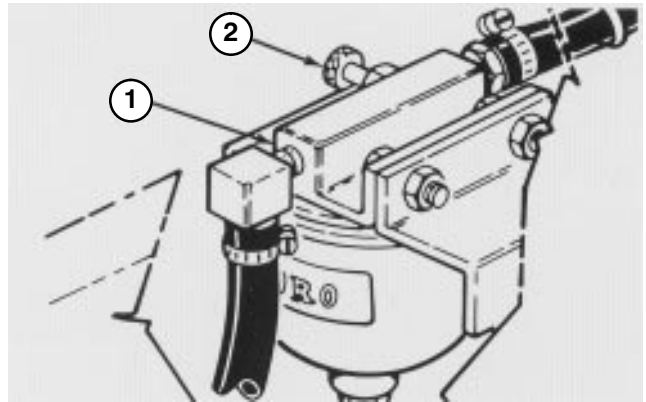

Figure 33
2. Loosen air bleed screw on top of fuel filter/water separator (Fig. 33).